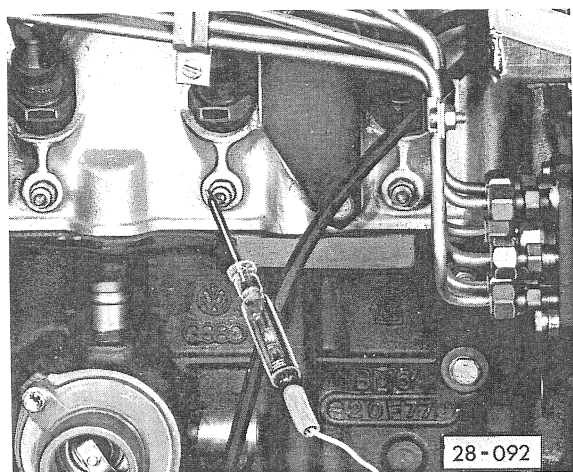

Fig. 1 Checking glow plugs
- Connect test lamp to battery positive (+) and apply probe to each glow plug in turn (Fig. 1)